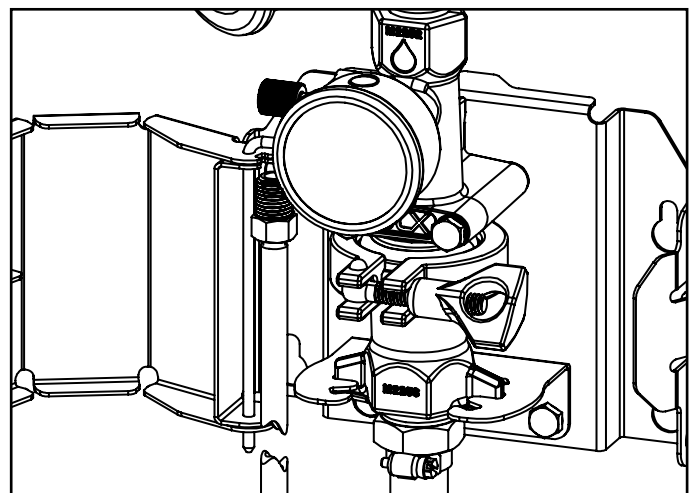

Fig. 8.2: Polypropylene lower support bracket
- **For Polypropylene Models:** Twist the lower sanitizer body and align the winglets to release it from the support bracket. [Fig 8.2]